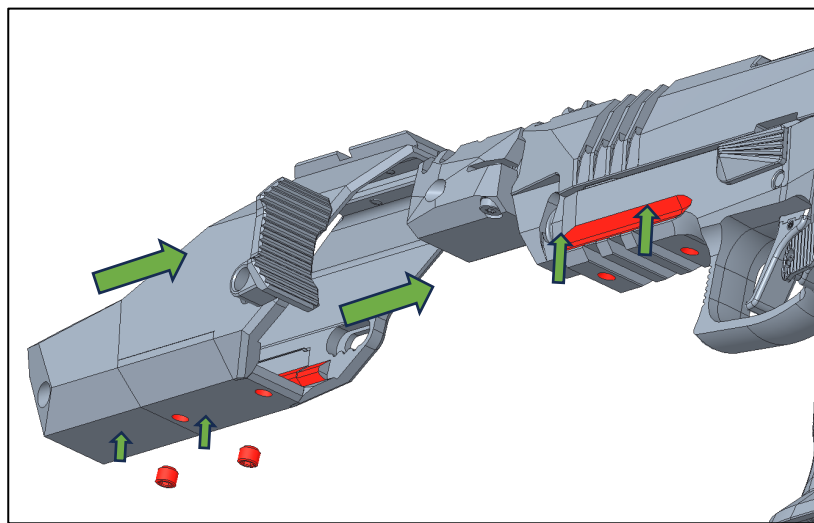

Figure 50: Sliding the bridge mount onto the frame and securing it
4. Final stage of assembly is sliding the bridge mount onto the pistol's picatinny rail. Slide the bridge mount onto the rail and affix it with two sockets set screws M5 (supplied, use Allen key 2,5mm, Figure 50).